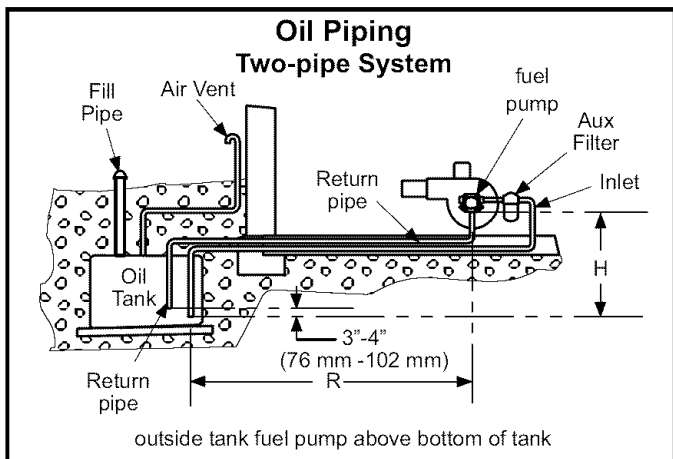

Figure 15
When using a two-pipe system with the oil tank below the level of the burner, a single-stage fuel pump should be used in lift conditions of up to 10 feet (3 m) and/or a vacuum of 10" (254 mm) Hg or less. See figure 15. Use a two-stage fuel pump when lift exceeds 10 feet (3 m) and/or a vacuum of 10" (254 mm) Hg to 15" (381 mm) Hg.
- 2 - Insert bypass plug and tighten it. See figure 15.
- 4 - The return pipe must terminate 3" to 4" above the supply pipe inlet. See figure 15.